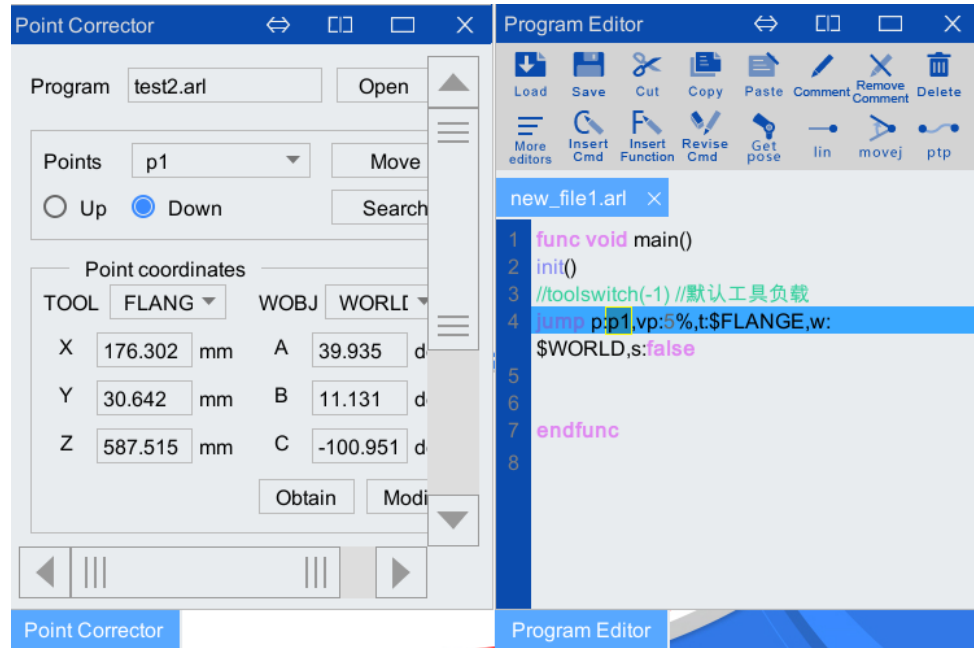

Figure 5-104 "Point List" Related button introduction
Step3. Click the drop-down box of "Point List" in Figure 5-104 to display all point data in the program. The <Up>, <Down> buttons and the <Search in Program> button are used together, meaning to search the selected point in the "points" from the current position in the program "up" or "down".